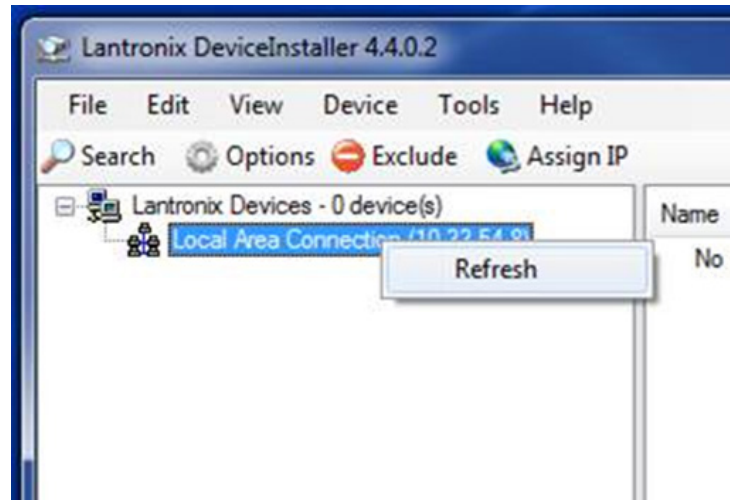

Figure 36 Lantronix DeviceInstaller Menu
1. From the Lantronix DeviceInstaller right-click on the connection you choose and hit refresh Figure 36).